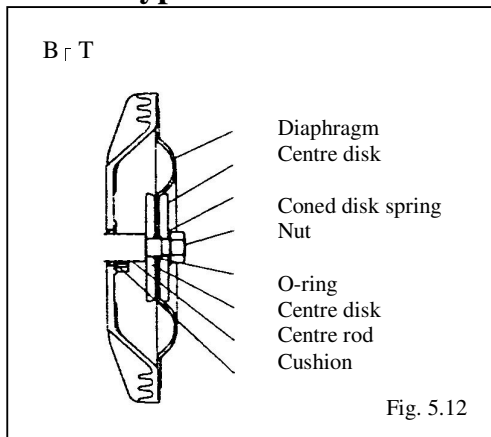

Fig. 5.12
- Apply lubricating oil to the centre rod, and insert it. Keep the convex side to the outside (Fig. 5.12).
- Put the O-rings to both sides of the diaphragm. (Fig. 5.12)